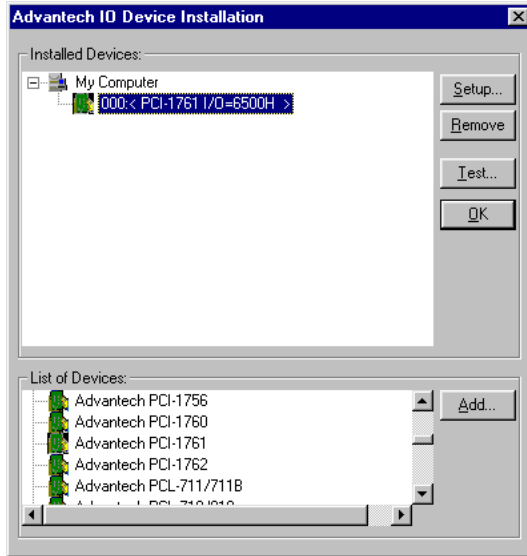

Fig. 2-10 The Device Name appearing on the list of devices box
Step 5: After you have finished configuring the device, click **OK** and the *device name* will appear in the *Installed Devices* box as seen in Fig. 2.10